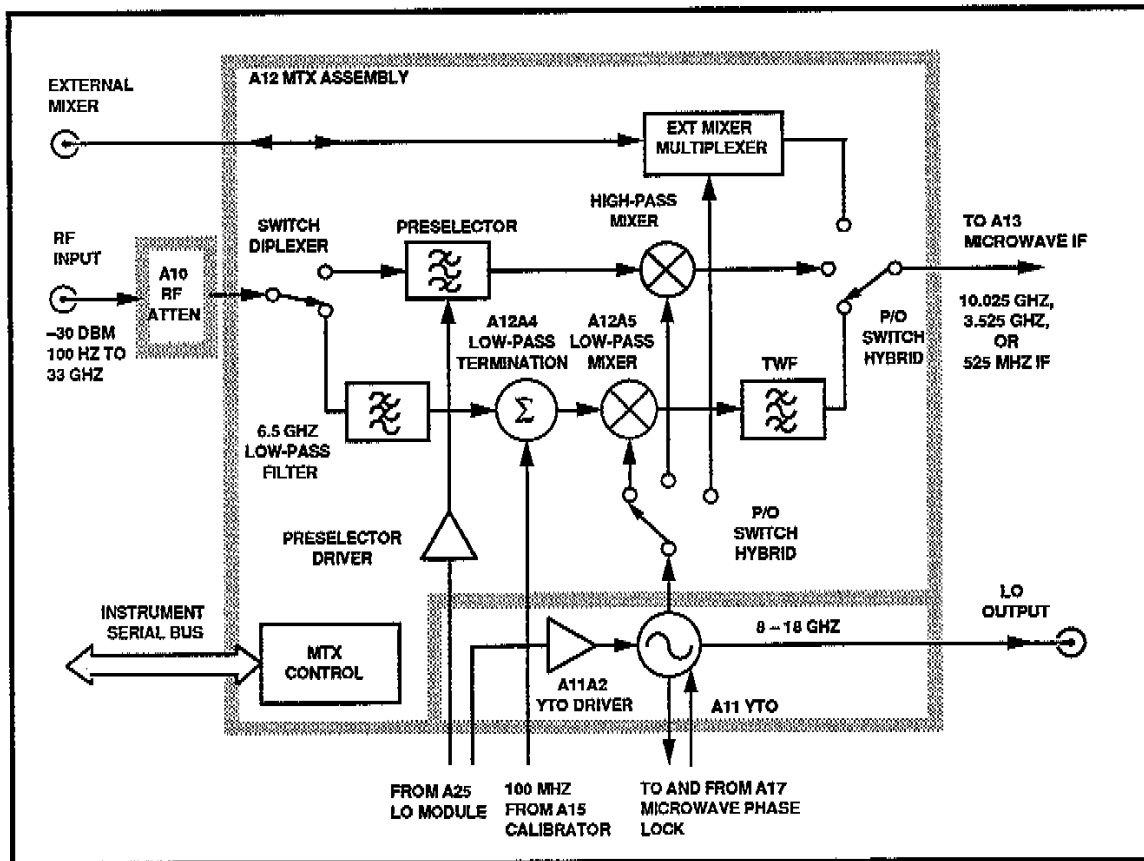

Figure 5-2. 1st Converter Block Diagram
The 1st Converter is the front end of the spectrum analyzer (see Figure 5-2). It mixes the radio frequency (RF) input signal with a tunable local oscillator signal to produce the first intermediate frequency (IF) signal, which is either 10.025 GHz or 3.525 GHz, depending on the frequency band being analyzed. When an external waveguide mixer is used, the 1st Converter furnishes a local oscillator signal to the EXTERNAL MIXER port, and multiplexes that local oscillator signal with the incoming 3.525 GHz or 525 MHz IF signal. The 1st Converter consists of RF Attenuator A10, Magnetically Tuned Converter (MTX) A12, and First Local Oscillator (YTO) A11.